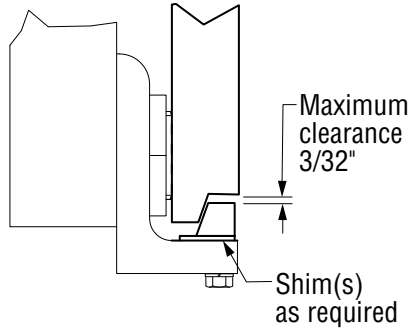

Figure 4-6, Lower hook clearance
7. Install the bolt-on lower hooks. Inspect clearance to the carriage on lower hooks. Adjust the lower hooks for a maximum clearance of 3/32" (see Figure 4-6). Tighten the bolts to **40-50 ft-lbs**.